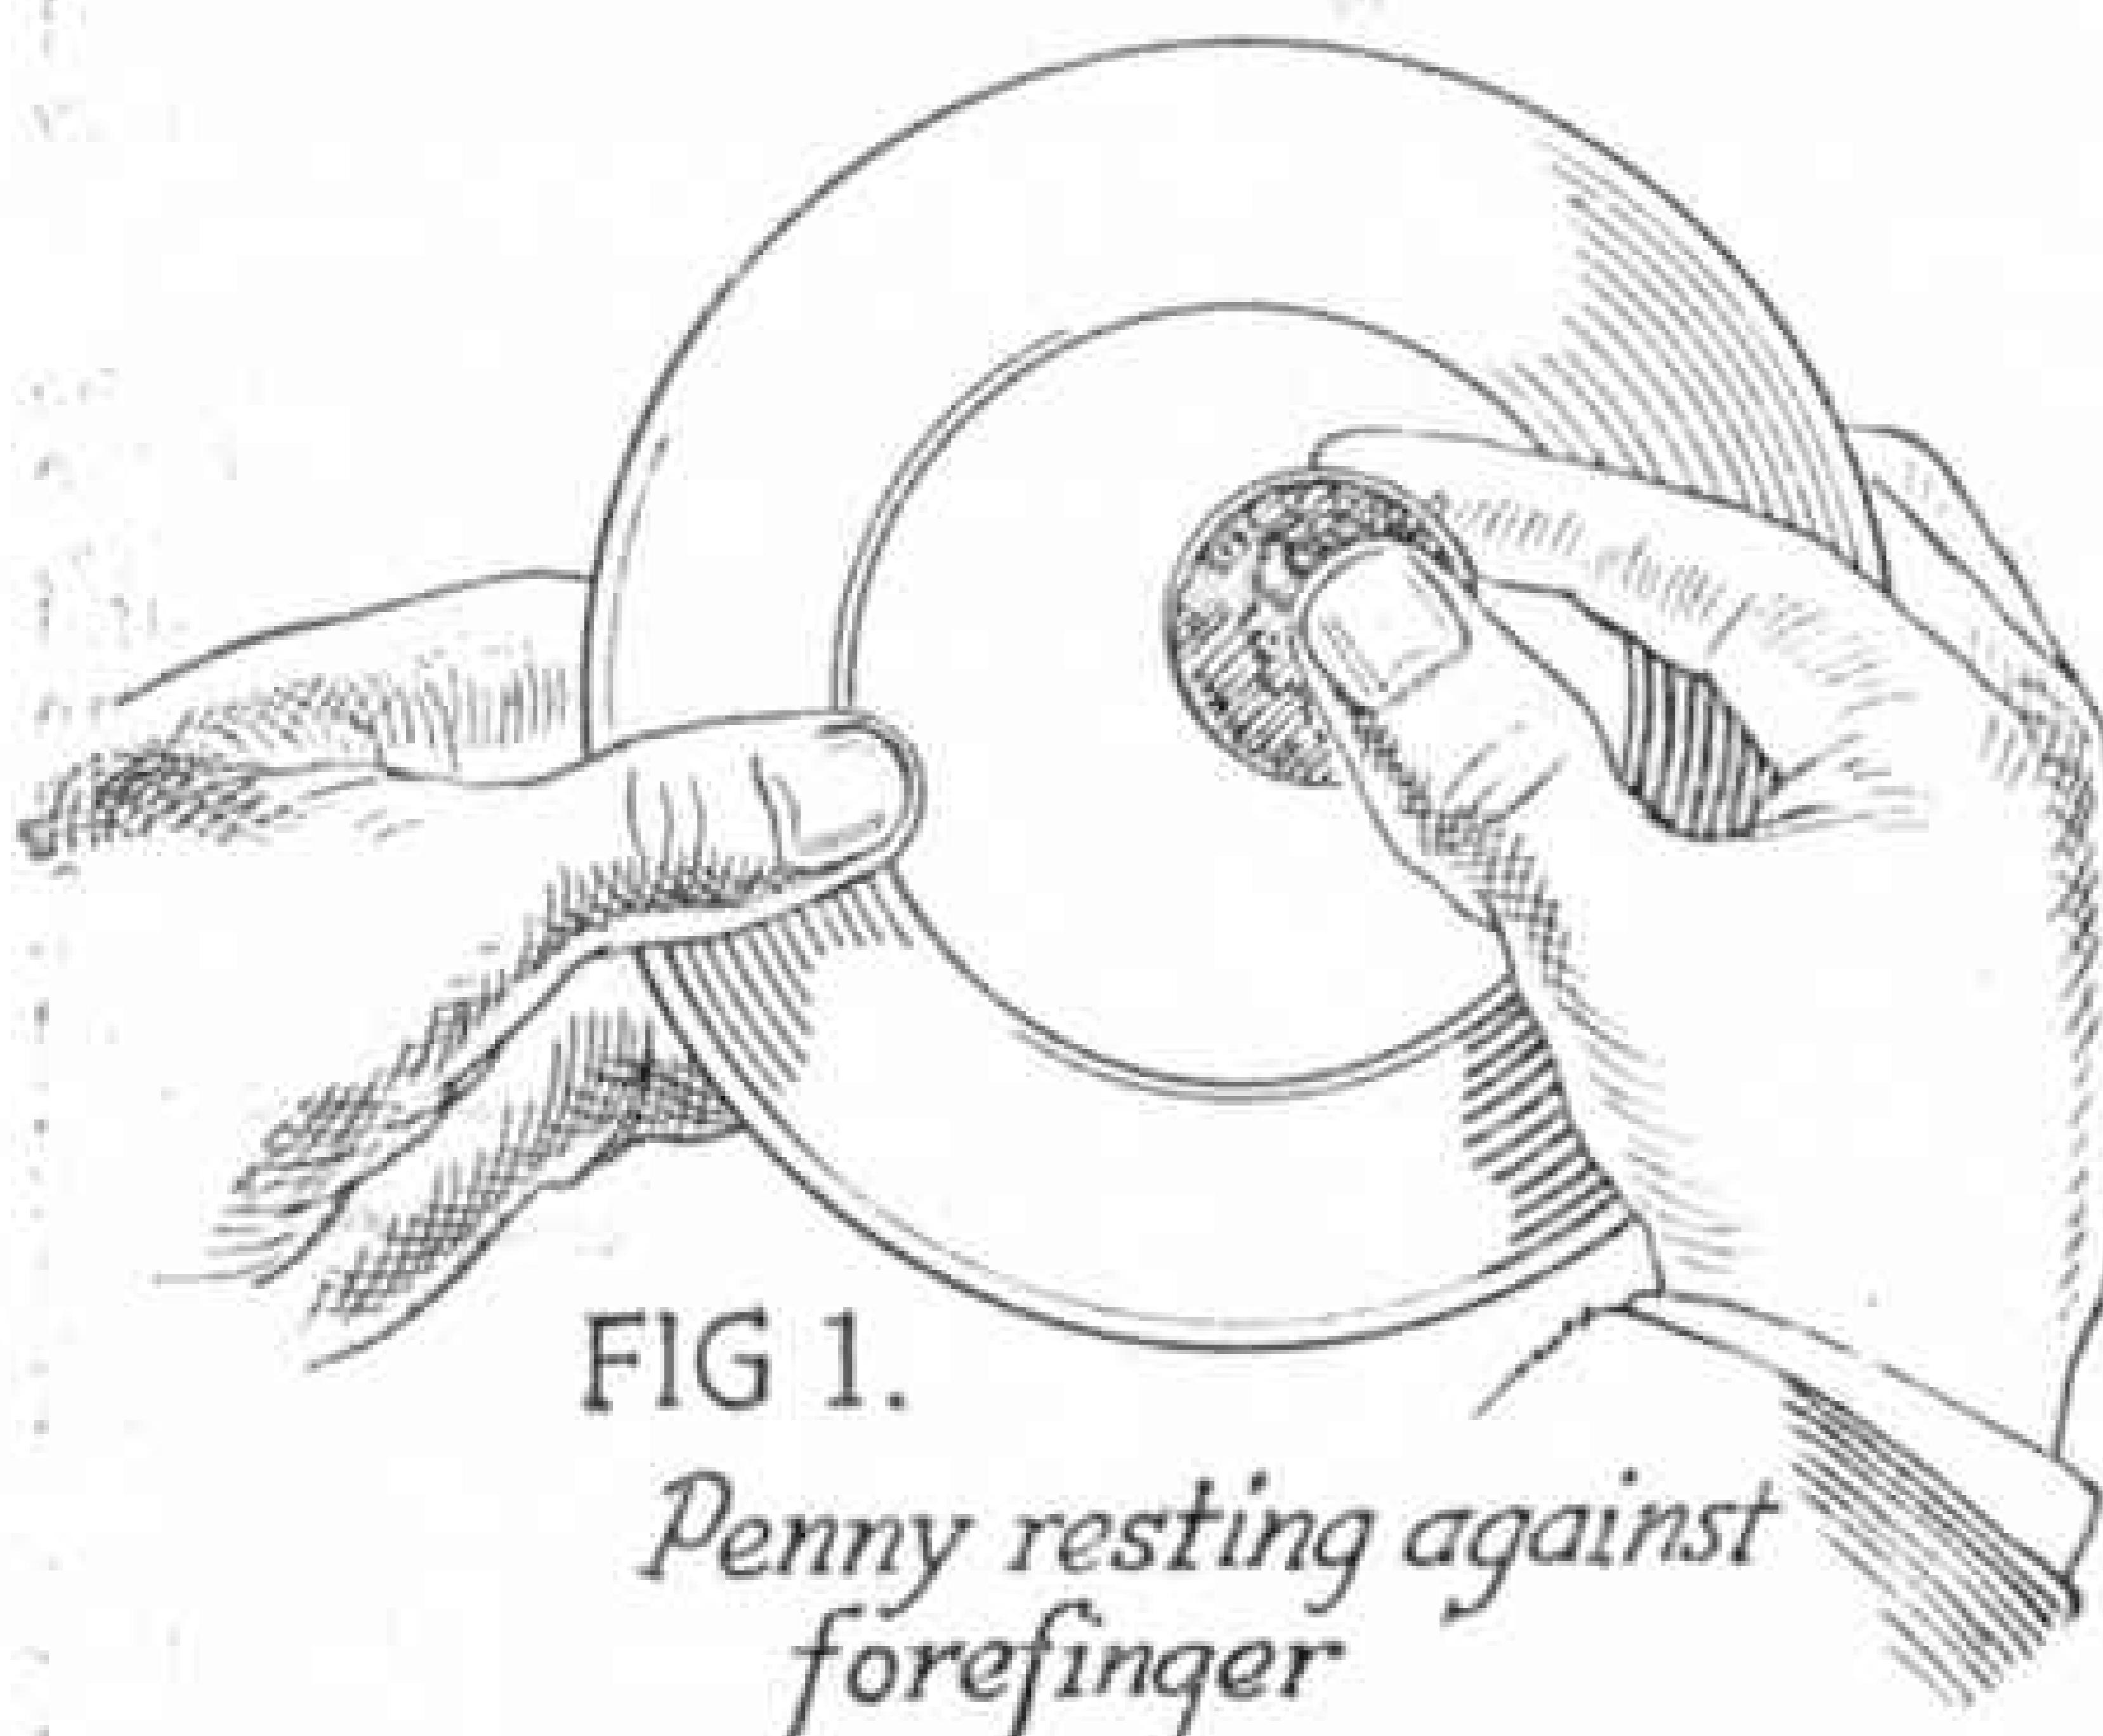

FIG. 1.
**How it is Done.** Have a penny concealed in your right hand. There is no need to try to palm it, just hold it loosely in the curve of your fingers. Pick up the plate and hold it with the top facing square to the audience. Place the penny against the bottom of it, the penny resting against the first finger of your hand as shown in Fig. 1. Put the top edge of the plate well into your mouth and make vigorous movements as if trying to bite through a tough crust. At the right moment draw the right forefinger upward, thus letting the penny snap sharply against the plate. The illusion is so perfect that you will get a gasp from your audience and much amazement when you hand out the plate—pocketing the penny—and it is found unbroken.